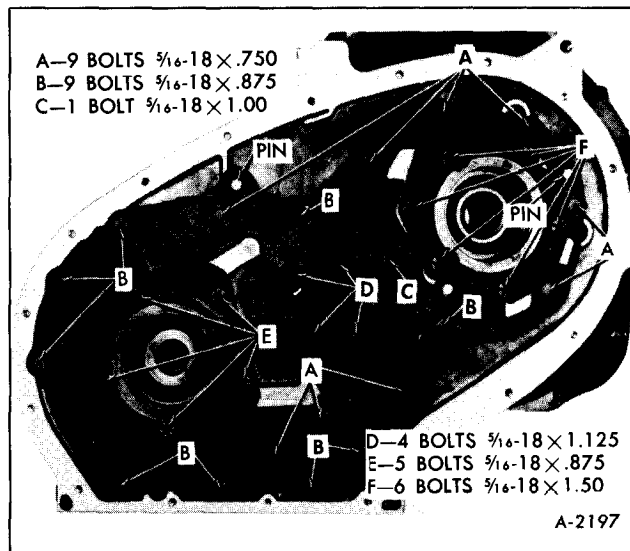

Figure 80-Pump Cover Plate Screws
2. Install pump cover plate on transmission and install attaching bolts per bolt chart, Figure 80.
**NOTE:** Do not install pump attaching bolts (F) or single bolt (E) in pump cover plate at this time.
6. Install remaining bolt (E) in driven support housing, tightening to 20 foot-pounds.
3. Install six retaining bolts (F), finger tight, Figure 80.